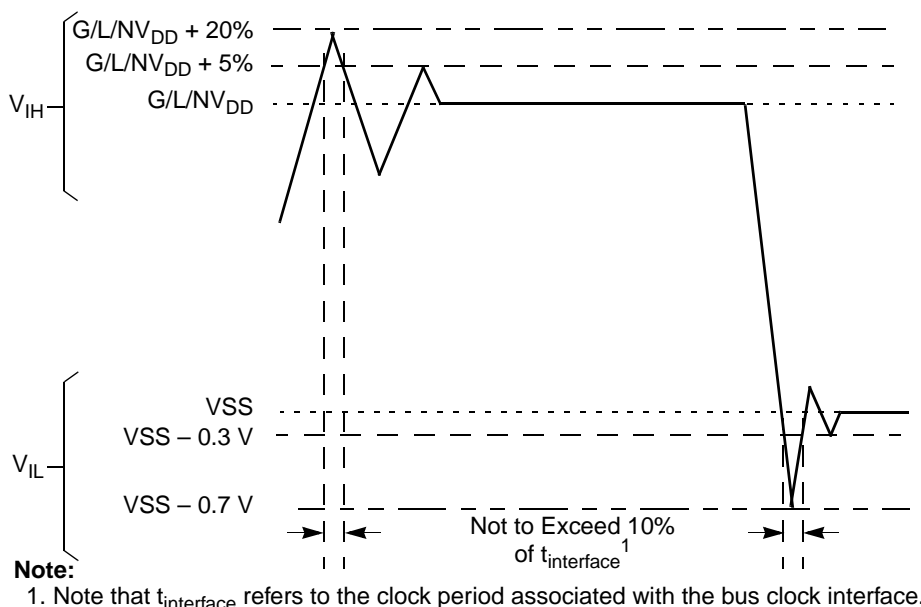

Figure 2. Overshoot/Undershoot Voltage for GVDD/NVDD/LVDD
- (M, L, O)VIN and MVREF may overshoot/undershoot to a voltage and for a maximum duration as shown in Figure 2
Figure 2 shows the overshoot and undershoot voltages at the interfaces of the device